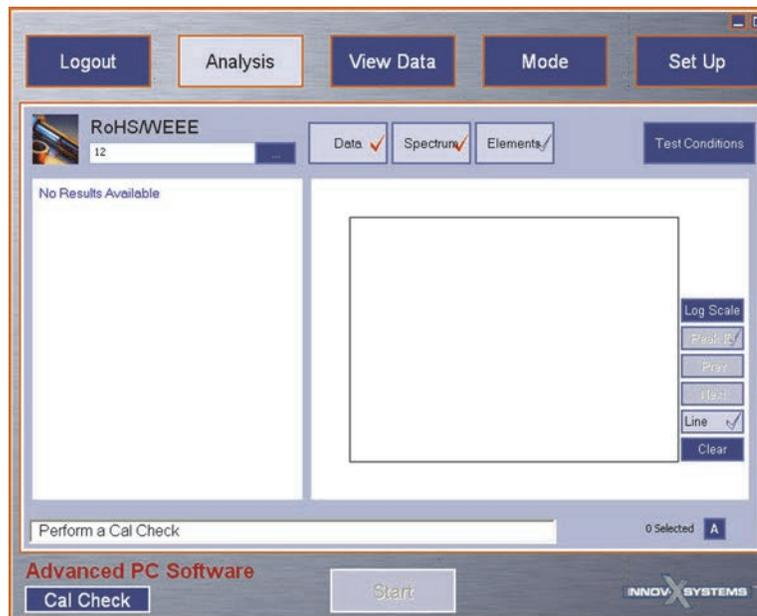

Figure 7-2 The test and test-setup screens – ready for Cal Check procedure
1. Navigate to the **Analysis** window (see Figure 7-2 on page 97).